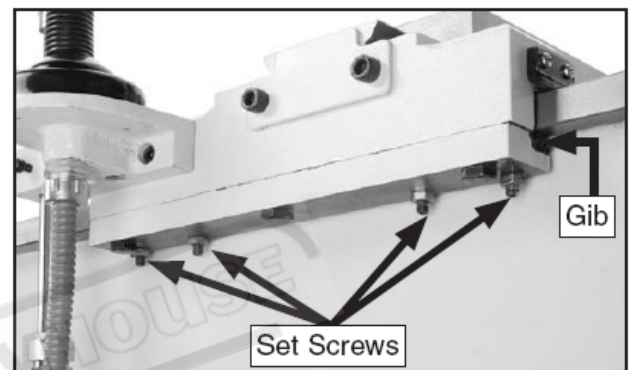

Figure 63
4. Loosen the jam nuts on the four set screws shown in **Figure 63**, and adjust the set screws as follows: